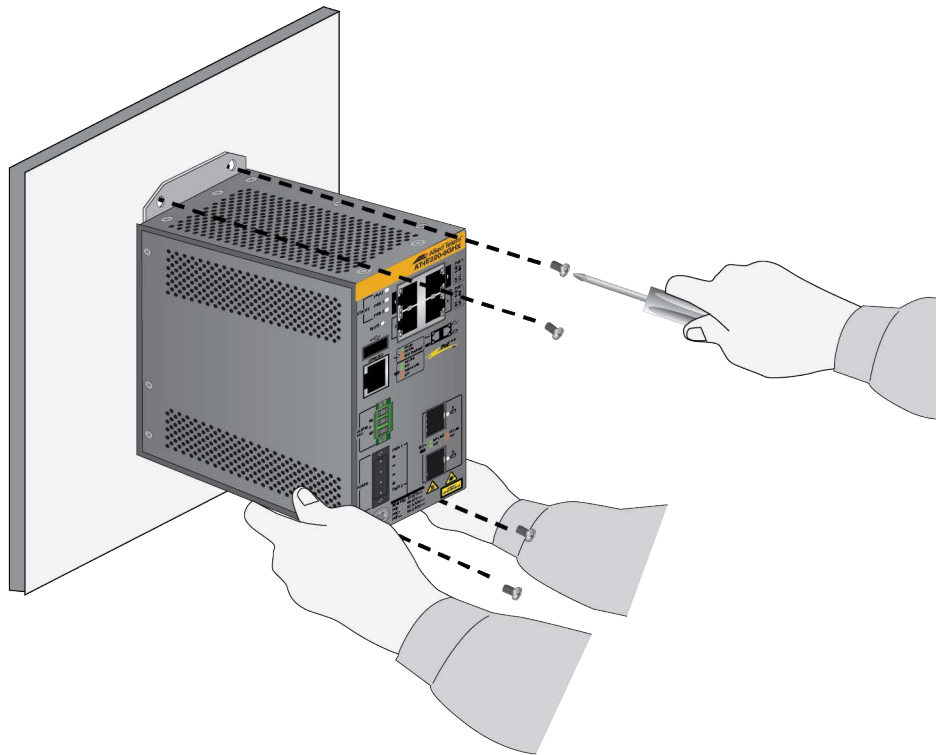

Figure 24. Installing the Switch on a Concrete Wall
9. Have another person hold the switch at the selected wall location while you secure it with four screws (not provided). Refer to Figure 24.